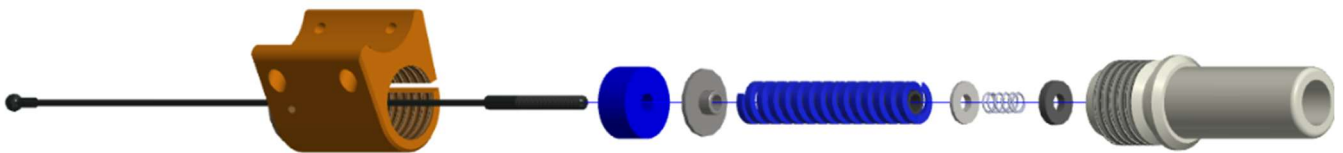

Figure 10-53. Assemble Upper Achilles Spring Housing (474-5525) to the Lower Achilles Spring Housing (474-5504)
- 10.3.18 Thread the Achilles Load Cell (SA572-S126) or the Achilles Load Cell Blank (472-7359), Bottom Spring Cap (474-5526), Achilles Spring Assembly (474-5523), Spring Bushing (474-2322), Compression Spring (6005232), and Primary Load Washer (474-5529) on to the Achilles Cable as shown in Figure 10-53. Seat the parts inside the Lower Achilles Spring Housing (474-5504) and screw on the Upper Achilles Spring Housing (474-5525) (Figure 10-53).